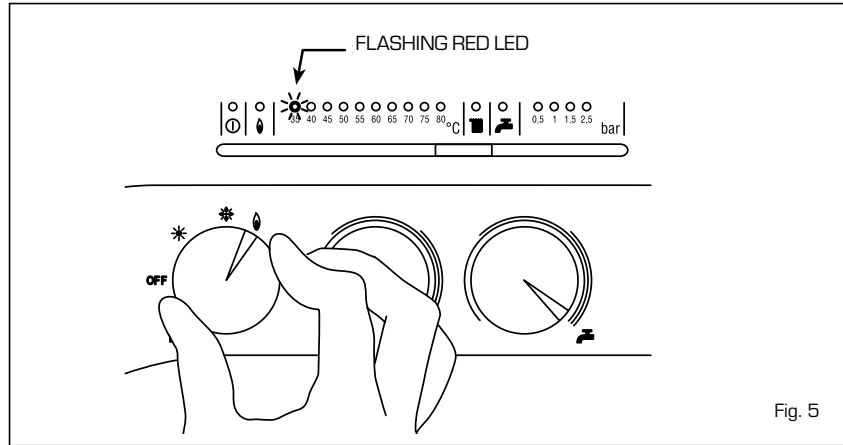

Fig. 5
- **Safety thermostat trip (fig. 5)**